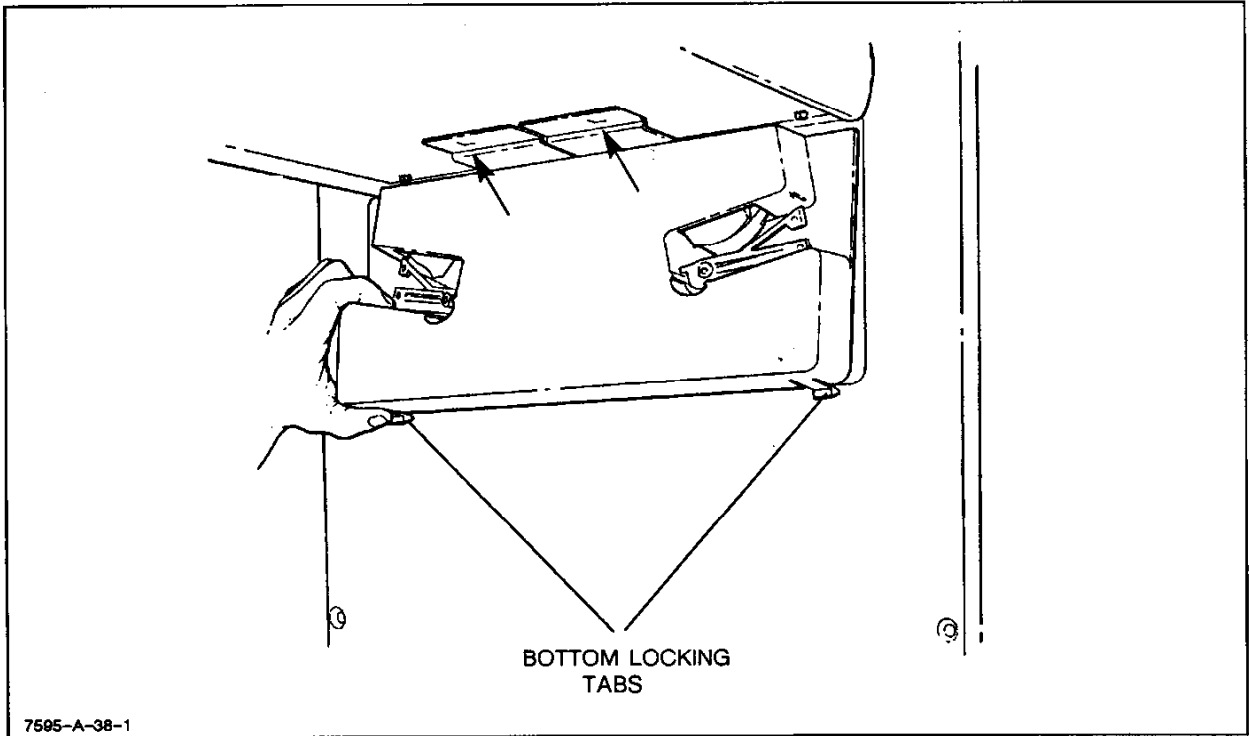

Figure 6-38. Roll-Feed Module Removal
- d. Remove the two roll-feed module mounting screws (Torx #15). See Figure 6-38.
taneously lift and pull the drive module to release the locking tabs. See Figure 6-38. Repeat steps d and e to remove the left side module.